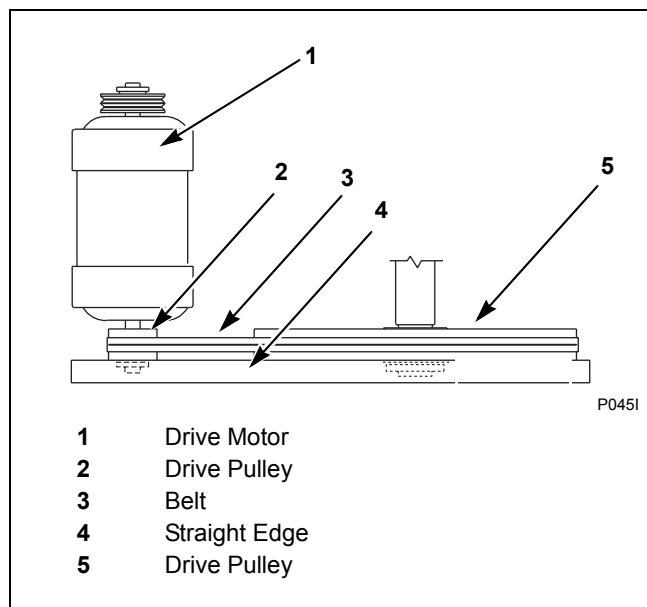

Figure 25
3. Verify V-belts are properly aligned by checking pulley alignment. Place a straight edge across both pulley faces. The straight edge should make contact with pulleys in two places. Refer to *Figure 25*.